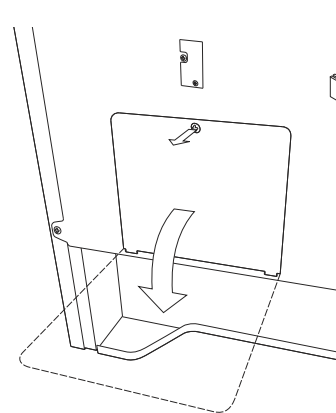

Figure 7
Loosen screw on rear access cover and pull down as illustrated in Figure 7 to access terminal block wiring connection. To close, return to original location and secure screw.
- 5 Make sure all screws are tightened securely and replace the rear access cover. See Figure 7.
- 3 Make sure all connections are tightened securely and replace the rear access cover. See Figure 7.